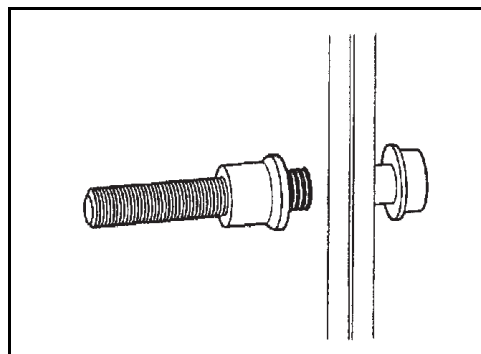

Figure 2.8 Place Collar Over Fastener Pintail 01_0019
2. Place the collar over the fastener pintail (See Figure 2.8)